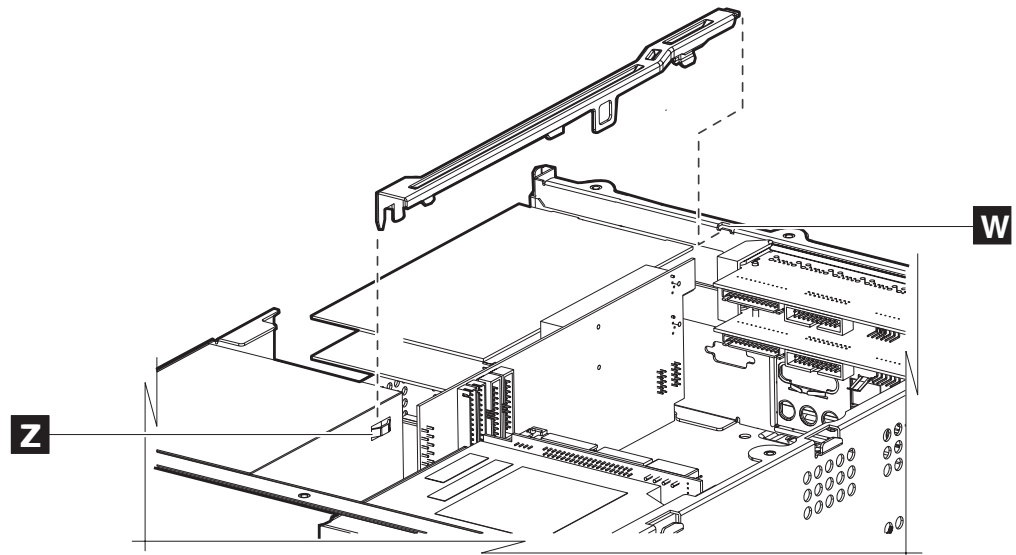

Figure 29. Removing the spline
3. See Figure 29. Locate the spline and lift it upward from notch (**Z** in Figure 29) and then outward from notch (**W**).